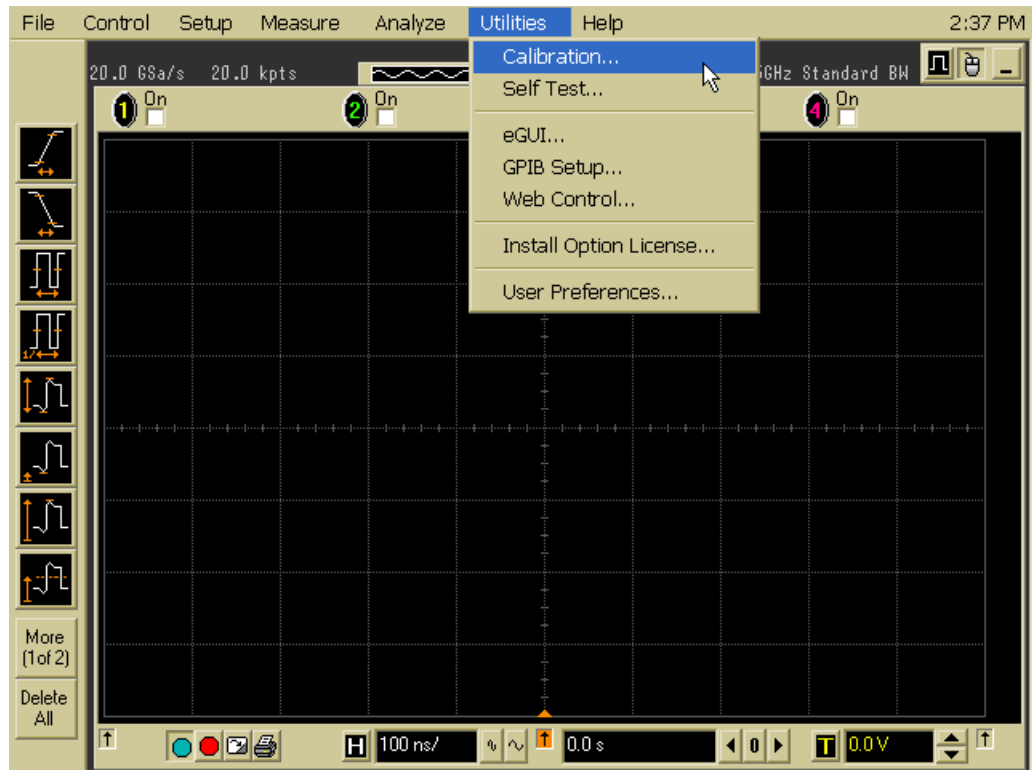

Figure 14 Accessing the Calibration Menu
- 3 Referring to Figure 14 below, perform the following steps: